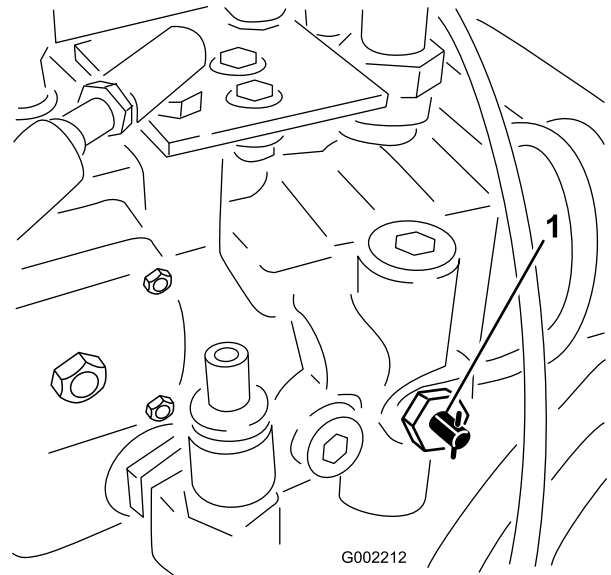

Figure 28
1. Rotate the tow valve (Figure 28) 90 degrees in either direction to open it.